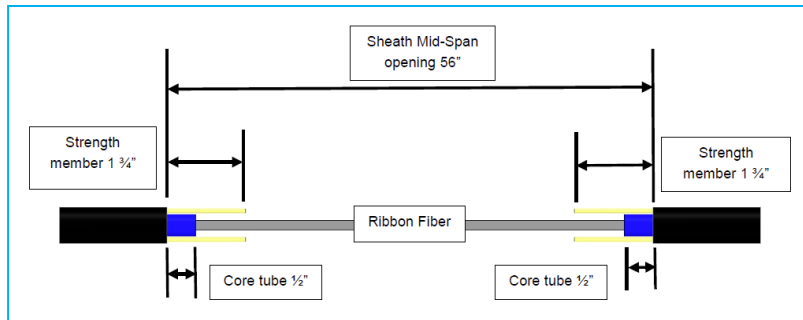

Figure 10
5.2.2.1 Preparation of Ribbon Central Core Tube shielded/unshielded, remove **56"** of outer sheath. See Figure 10.
5.2.2.2 Cut strength member(s) **1 3/4"** from end of sheath openings. See Figure 10.
5.2.2.3 Remove core tube from ribbon leaving **1/2"** core tube measured from the cable sheath openings. See Figure 10.